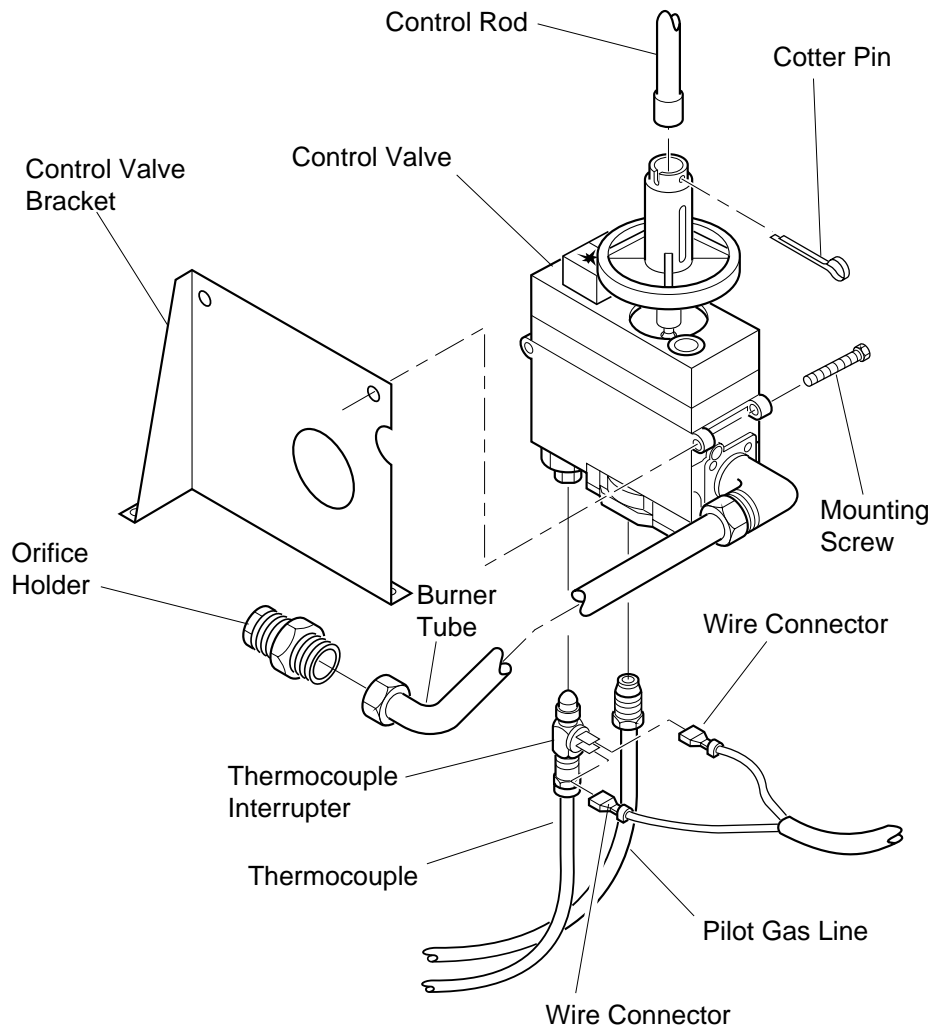

Figure 23 - Removing Control Valve and Burner Tube
3. Disconnect burner tube from orifice holder (see Figure 23).
4. Remove pilot gas line from control valve (see Figure 23).
5. Disconnect wire connectors from thermocouple interrupter (see Figure 23).
7. Remove cotter pin from control valve. This releases the control rod from valve (see Figure 23).
8. Remove the two mounting screws from control valve mounting bracket (see Figure 23).